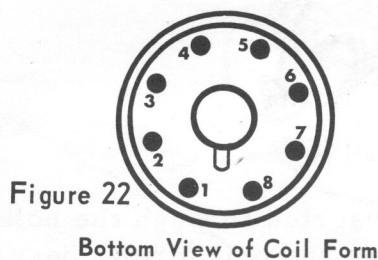
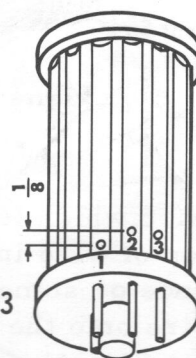
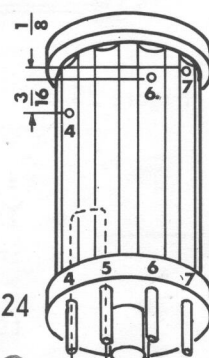

Figure 22
Figure 23
Figure 24
- 2 The pin numbering of the coil form, as viewed from the bottom, is like the numbering of a tube socket. The numbering progresses in a clockwise direction from the center key portion of the coil form. See Figure 22. Mark a spot for a hole to be drilled, directly above pin #1. This mark should be as close to the base of the coil form as possible. See Figure 23. Mark a spot for a second hole to be drilled directly above pin #2, about 1/8 inch higher than the previous hole marked. Mark a spot for a hole to be drilled directly above pin #3, the same distance up from the base of the coil as the spot marked above pin #2. Mark a spot directly above pin #4, about 3/16 inch from the top of the coil. See Figure 24. Mark a spot directly above pin #6, about 1/8 inch from the top of the coil form. Mark a spot directly above pin #7, at the top of the coil winding area of the coil form. See Figure 24.
- 12 Scrape the enamel coating from the coil wire for about 1/2 inch, beginning at the point where it comes out of pins 3 and 4. This portion of the wire must be a bright copper color, with no enamel coating remaining. Tin the portion of the wire which has been scraped clean. Remove the insulation from a 2-inch piece of hook-up wire and form a "U"-shaped wire with which to connect pins 4 and 5. Insert this connecting wire through the pins from the inside of the coil form. See Figure 24. This jumper connects section C-9b of the tuning capacitor into the tuning circuit.